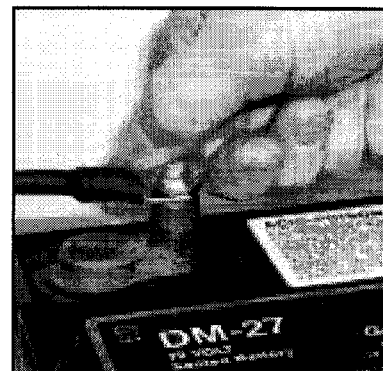

Figure 6 - Mounting temperature sensor on battery.
1. Secure the 3/8" copper probe to a clean negative (-) battery terminal (see **Figure 6**). The 20' leads may be shortened or extended, if needed. Note: An improperly installed or corroded battery terminal may generate heat and severely diminish charging and impede accurate temperature sensing.